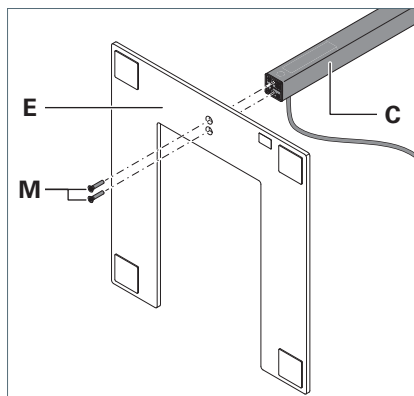

Fig. 4: Assembling the column.
3. Assemble the column with the screws provided **M** on the luminaire base **E**, see Fig. 4.